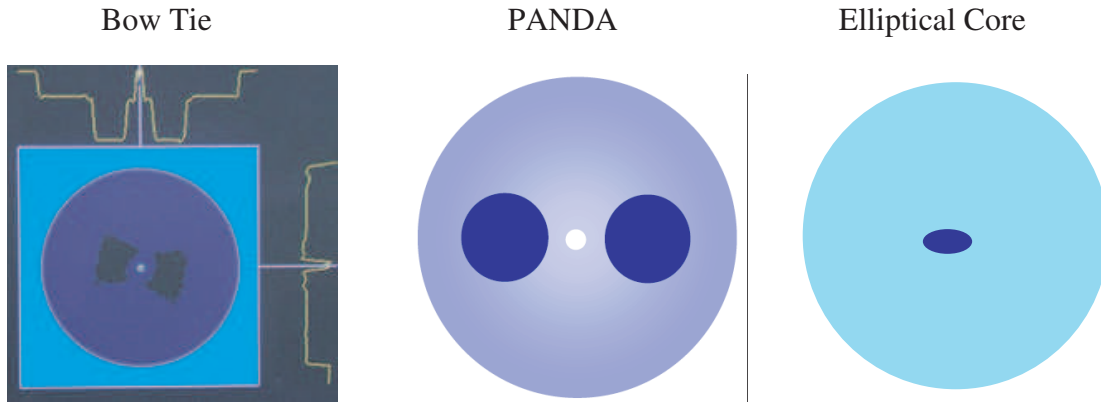

Figure 1.4: The 3 common methods used to create Polarization Maintaining optical fibers.
One way to eliminate this fluctuation in the polarization state is to intentionally increase the birefringence. When the birefringence is large enough (on the order of 10^{-4}), coupling from one polarization to another is difficult. Similarly, by increasing the birefringence small changes in the birefringence do not significantly affect the final polarization state. Figure 1.4 shows the three most common methods used to create Polarization Maintaining (PM) optical fibers namely bow tie, PANDA, and elliptical core.